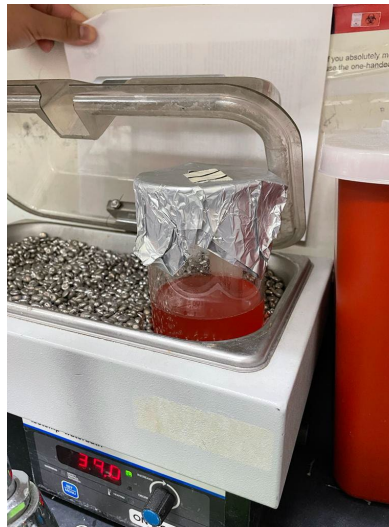
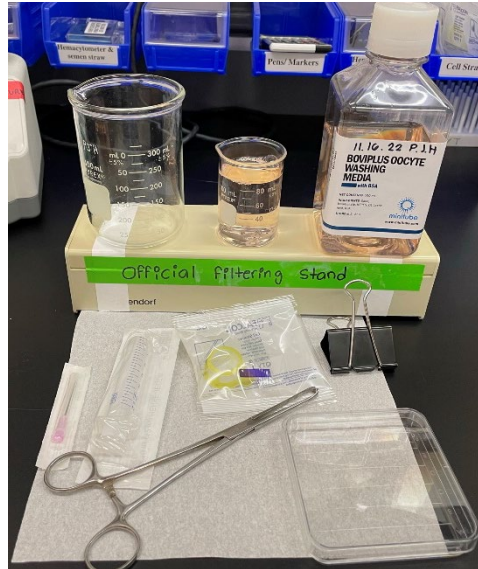

Figure 10. Beaker placed in warmer (with beads) containing follicular fluid from slashed ovaries
Figure 11. Materials to be used for filtering and search of oocytes
- 6) Place beaker with follicular fluid from slashed ovaries in a warmer until ready to filter (Figure 10).
- 1) Prepare materials for filtering and searching (Figure 11). You will need an empty 400 mL beaker, 2 mL beaker, forceps, cell strainer, binder clip (used to hold the forceps), a stand, integrid petri-dish, 10 mL syringe, 18 gauge needle, warmed oocyte collection medium (Figure 10) and an X-plate dish.
- 2) Fill a 10 mL syringe with warmed oocyte collection medium (for later use in rinsing the oocytes from filter) and pour ~ 2 mL oocyte collection medium into an integrid petri-dish to prevent oocytes from sticking to the bottom of the plate. Pour warmed oocyte collection medium into 3 wells of an X-plate (Figure 11).
- 3) Use a forceps to hold a 100 μ m cell strainer in position over a 400 mL beaker (Figure 11).
Figure 11. Illustration of setup for filtering medium containing oocytes. Shown are a 10 mL syringe fitted with an 18 g needle and smaller beaker containing oocyte washing medium after collection of oocytes (ready for filtering). The binder clip is attached to the hemostat to hold the filter at the same level as the empty beaker.